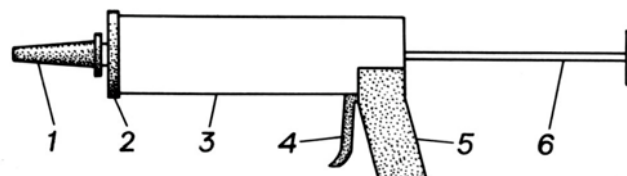
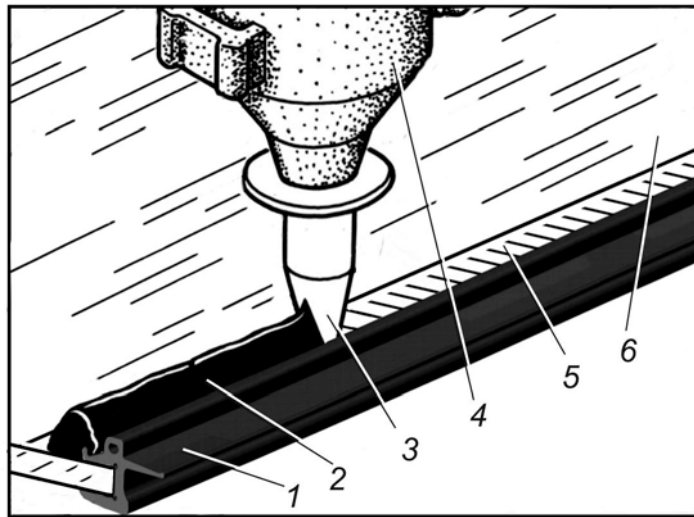

Fig. 8.7. Tool for squeezing adhesive out of the cartouche: 1 – nozzle; 2 - cover; 3 – housing; 4 – lever; 5 – handle; 6 - rod
Fig. 8.8. Adhesive application: 1 – seal; 2 – adhesive; 3 – nozzle; 4 – adhesive squeezer; 5 – primer; 6 – glass
- install the cartouche with adhesive into the tool (Fig. 8.7) and apply adhesive around the glass perimeter (see Fig. 8.8) in the form of a continuous triangular wide strip with a height of at least 10 mm. The wide adhesive strip joint must be located at the bottom of the glass, with the length of the overlap of the wide adhesive strip joint (lock) of at least 15 mm,